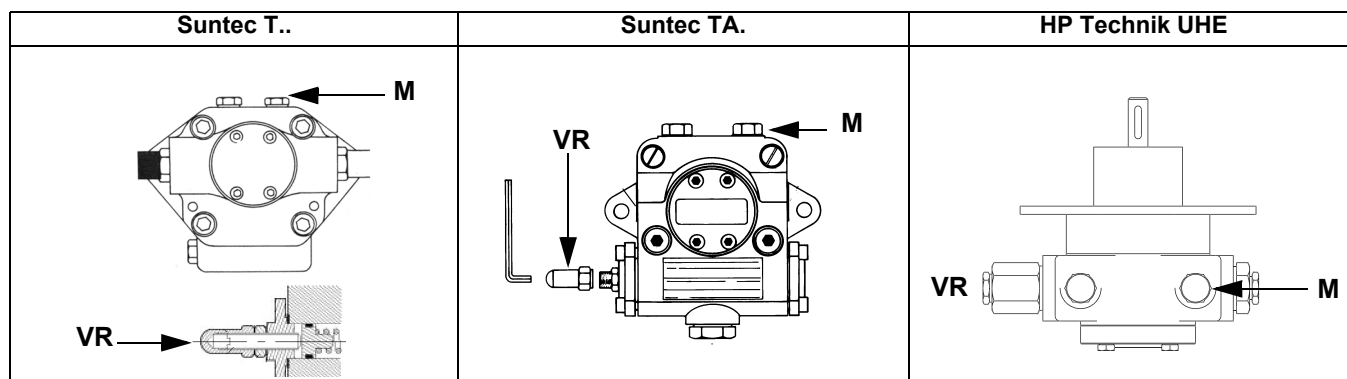

Fig. 5
- 3 bleed the air from the **M** pressure gauge port (Fig. 5) by loosening the cap without removing it, then release the contactor.
- 5 Only if necessary, adjust the supply pressure as follows (see related paragraph); insert a pressure gauge into the port shown on Fig. 6 and act on the pump adjusting screw **VR** (see Fig. 5) as to get the nozzle pressure at 20bar (Monarch or Fluidics nozzles - see page 45-38).